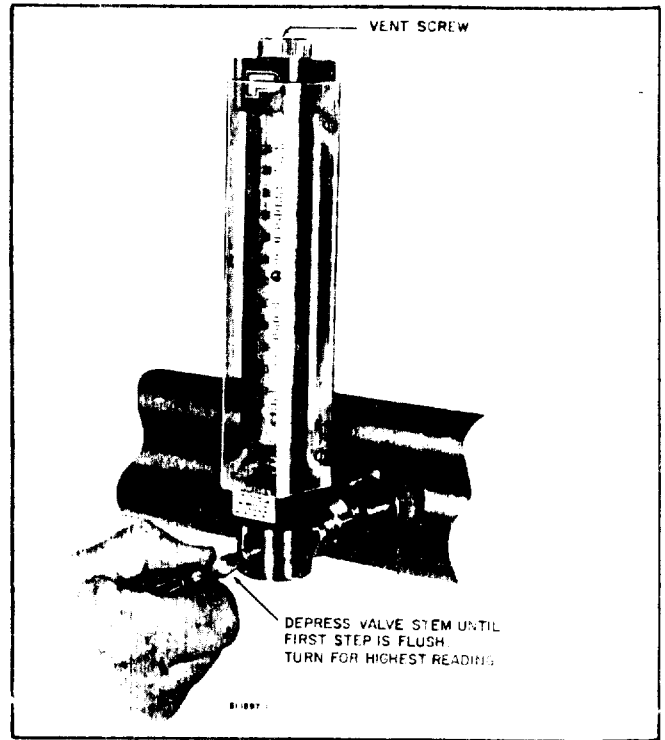

FIGURE 4 MAKING THE CALIBRATION ADJUSTMENT
2) Turn on the flow of liquid in the pipe line (if it is not already on). With a screwdriver, depress the valve stem, as shown in Figure 4, until the first step is flush with the meter fitting.